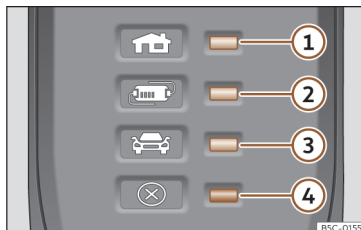

Fig. 68 On the charging cable for power sockets: Indicator lamps on the protection device.
>>> **Fig. 68:**
The electronic protection device >>> **Fig. 68** ensures that the charging connector does not receive current until it is plugged in to the vehicle's charging connector.
One or more control lamps >>> **Fig. 68** ①, ② or ③ light up green.
Display >>> Fig. 68	Meaning
①, ④ flashing	The housing connector has overheated.
②, ④ flashing	The protection device has overheated.
If the charging process continues with a lower current, both the operating indicator and the warning lamp >>> Fig. 68 ④ flash red.
- If it disconnects again, or the charging current reduces and the cause does not seem to be exposure to an external heat source, make sure that the green control lamp is flashing >>> Fig. 68. Visit a specialised CUPRA dealer or any SEAT network dealer to check the charging cable. Get an establishment that specialises in electrical installations to check the infrastructure connection.
If the red warning light ④ flashes or turns on without one of the indicator lamps >>> Fig. 68 ①, ② or ③ also turning on continuously on the status indicator, there is a fault.